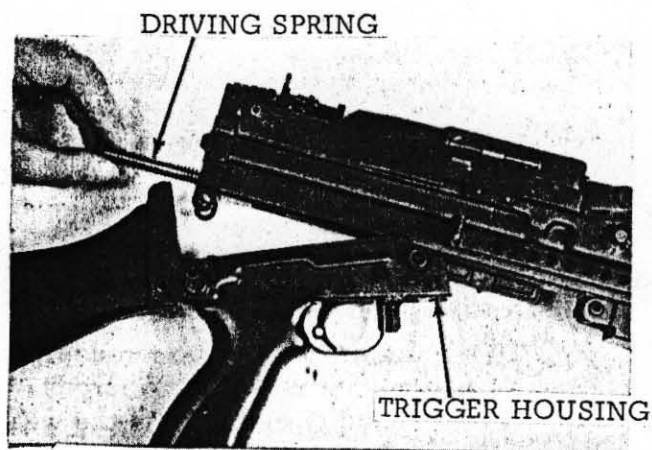

FIGURE 12. REMOVING THE DRIVING
- (5) Look in the receiver and chamber to be sure that the weapon is cleared of all ammunition and is safe to disassemble.
- (6) Move the safety to the "Off" or forward position, (figure 12).
- (7) Close the cover and pull the cocking handle to the rear, still holding the cocking handle, pull the trigger, then ease the bolt forward, closing the action.
- (2) Holding the weapon with the left hand under the receiver, muzzle pointing down, pull the take-down pin with the right hand until the trigger housing group is free to pivot downward (figure 12).
- (3) Still holding the open weapon in the left hand, grasp the driving spring and remove (figure 12).